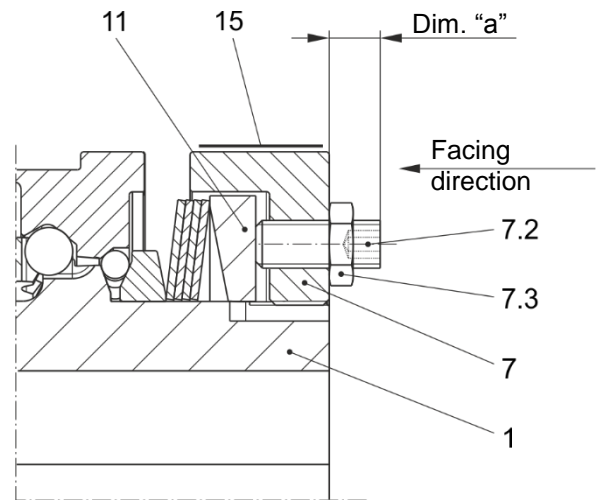

Fig. 18
Adjustment is carried out via dimension "a" by turning the set screws (Item 7.2, Fig. 18).
Turning the set screws (7.2) clockwise causes a reduction in torque (Fig. 19, dimension "a -" acc. adjustment table (Item 15) and Fig. 20). Turning it anti-clockwise causes an increase in torque (Fig. 19, dimension "a +" acc. adjustment table (Item 15) and Fig. 20). You should be facing the adjusting nut (7) as shown in Fig. 18.
- For dimension "a", see the adjustment table (Item 15, Fig. 20) (The adjustment table (15) is glued onto the outer diameter of the adjusting nut (7), see Fig. 18).